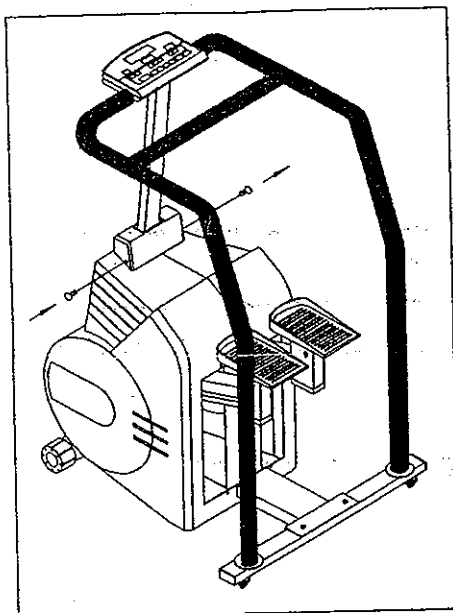

Fig.1
1. Remove the two screws securing the post shroud (see Fig. 1 & 2).